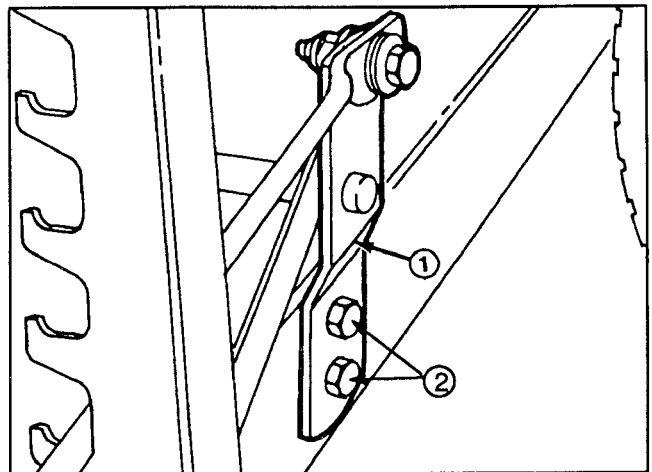

Figure 31
5. If the blade tip height is not within 1/8 inch (3 mm), level the cutting unit by loosening height-of-cut support bracket capscrews and raising or lowering the bracket (Fig. 31).